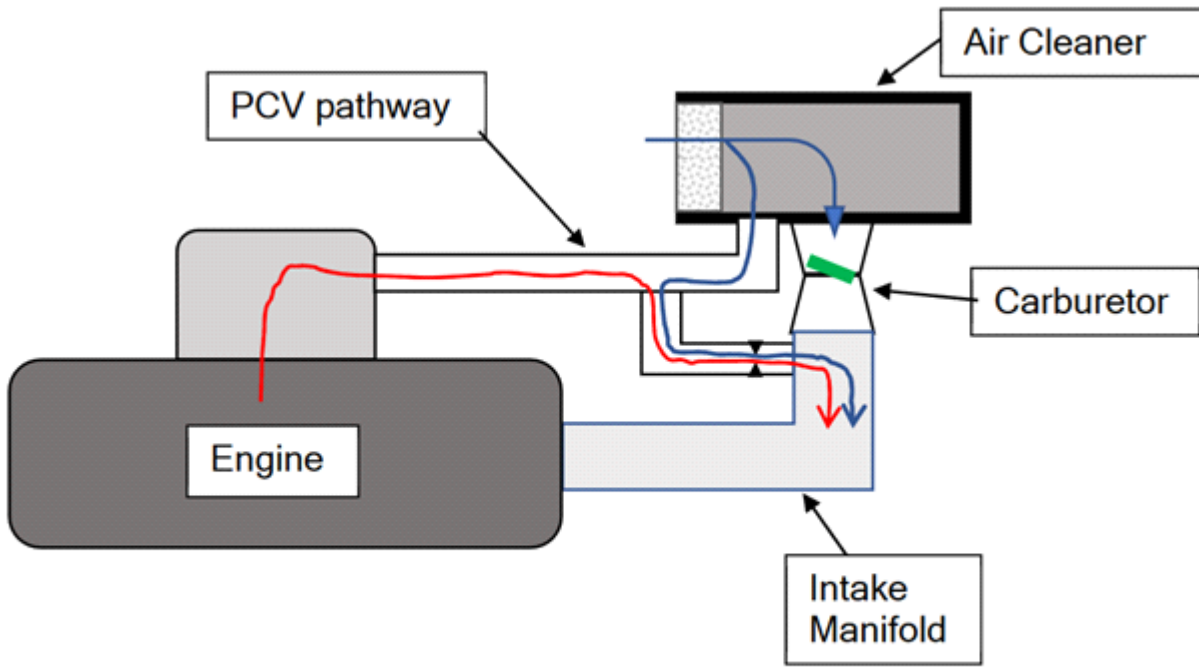

Figure 1. PCV during Idle
- **IDLE** –At idle, intake manifold vacuum is high, which would ordinarily draw crankcase gases into the manifold, causing the engine to run too lean. But the flow of crankcase gas to the intake manifold is restricted by the PCV valve / orifice under these conditions. Why? Because the input-side of the valve / orifice is subject to atmospheric pressure coming from the air cleaner. This counteracts the vacuum condition and prevents too much crankcase gas from getting drawn into the intake manifold, thereby preventing the lean condition that would otherwise occur. Refer to figure 1.